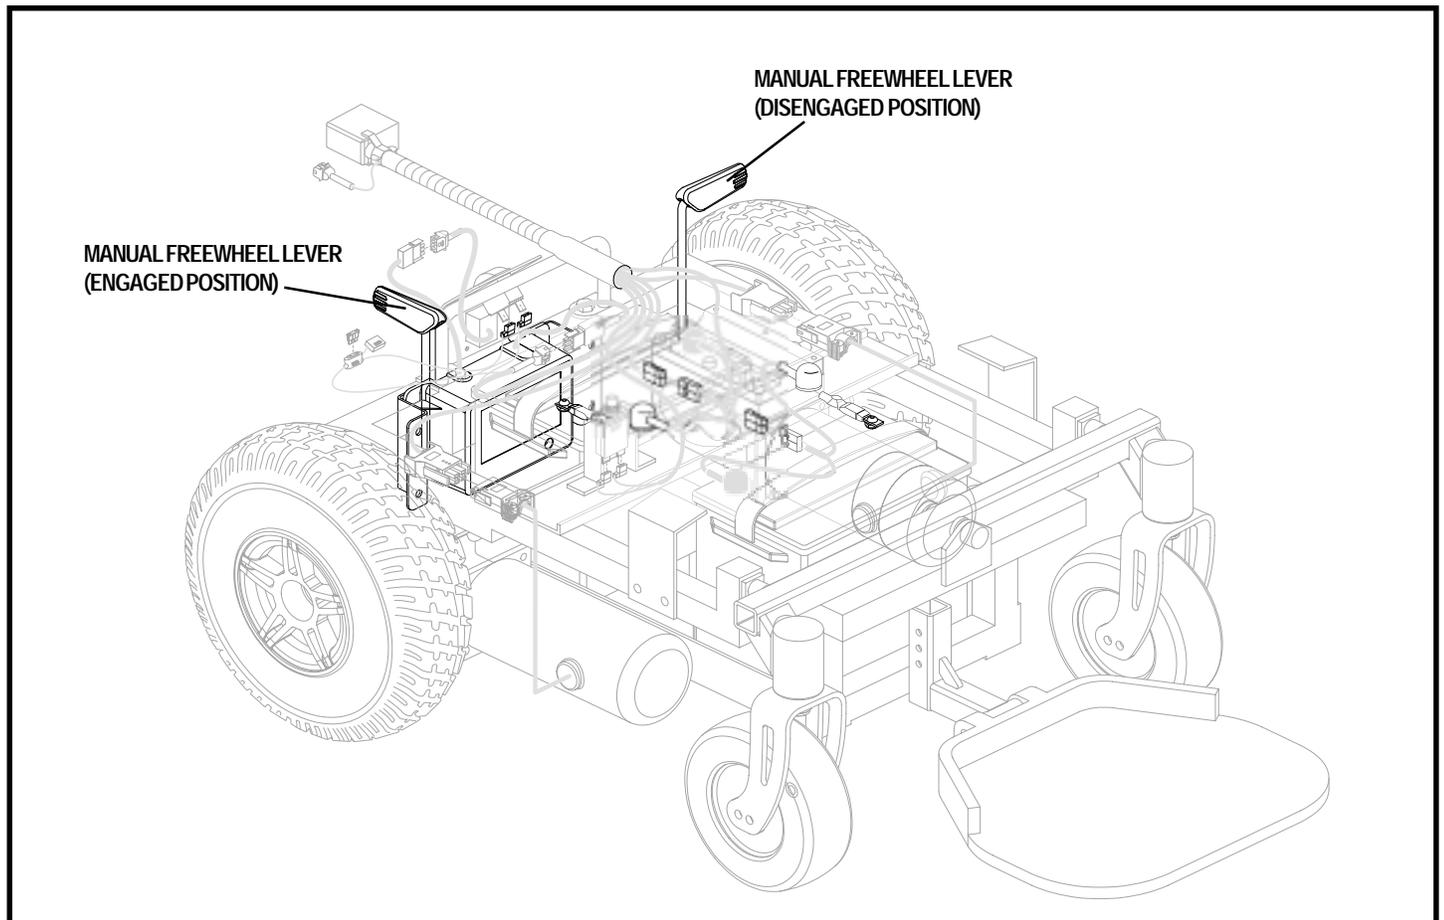

Figure 8. Manual Freewheel Lever Positions
1. Locate the lever on top of each drive motor. See figure 8.